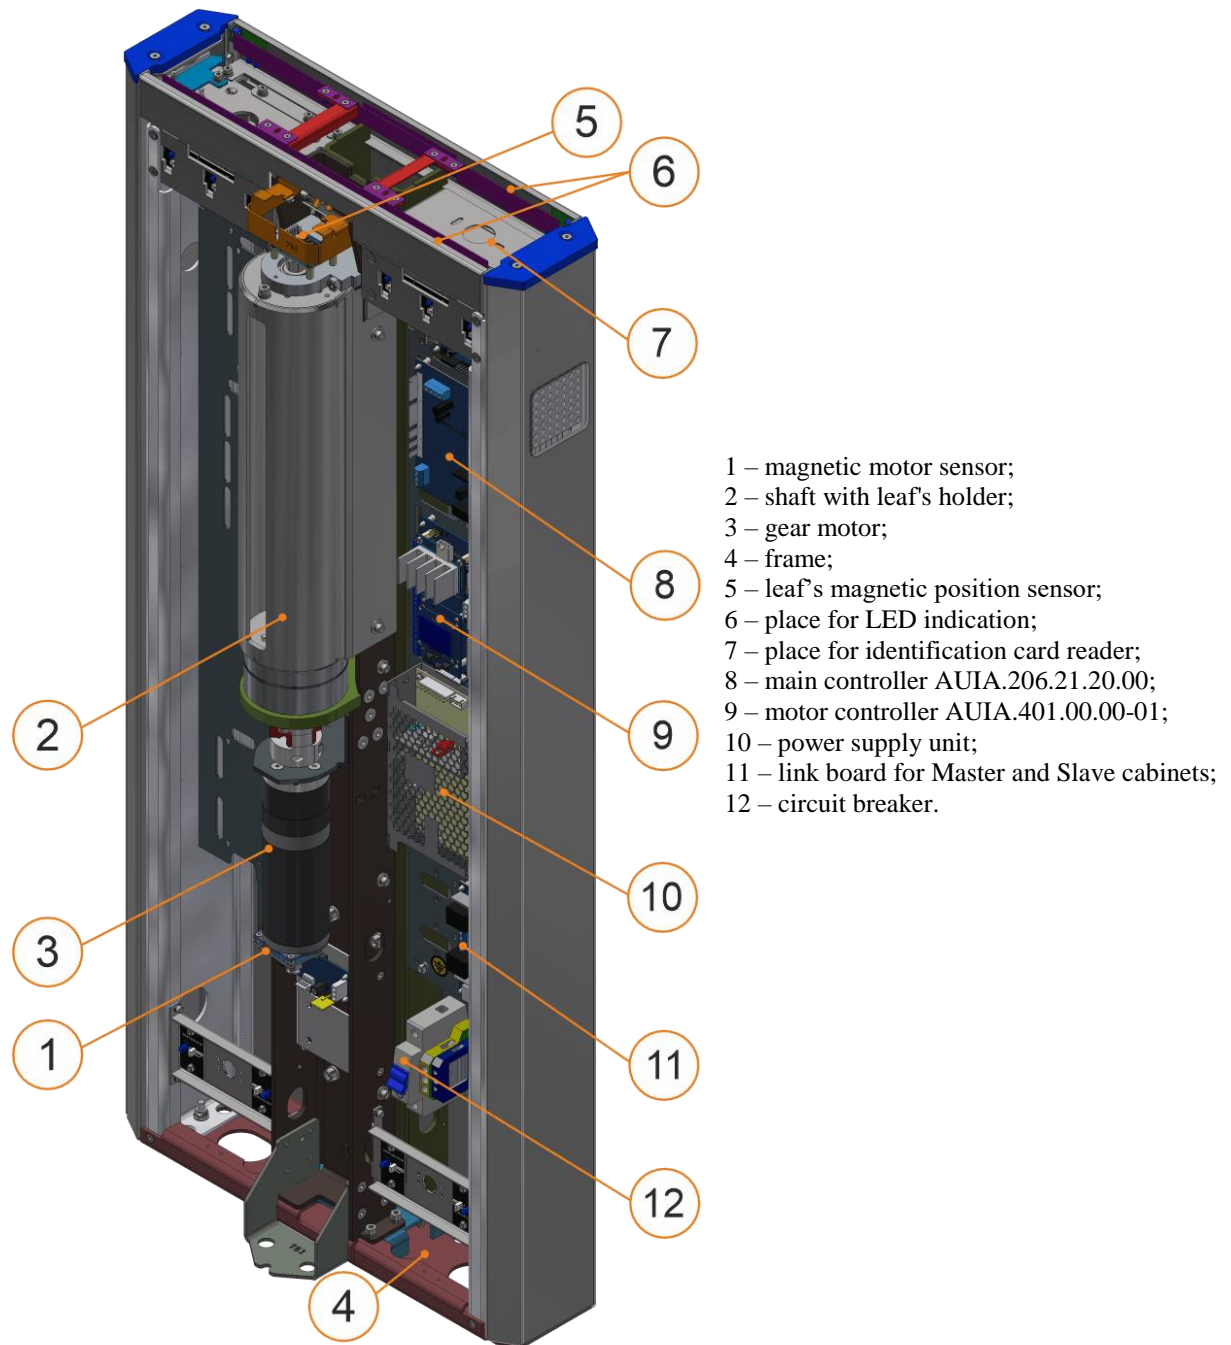

Fig. 5 – General appearance and design of the "Sweeper-SH-1" (cabinet Master) turnstile operating mechanism and control desk
The cabinet operating mechanism is shown in Figure 5.
Controllers AUIA.401.00.00-01 (9) control the turnstile motors (3) (Fig.5) analyzing signals from motor shaft position sensors (1) and leaf position sensor (5), and provide motor overload protection. Controllers AUIA.206.21.00.00 (8) analyze infrared sensors, receive control commands from peripherals (control panel, ACS etc.), control LED displays and generate feedback signals for ACS.